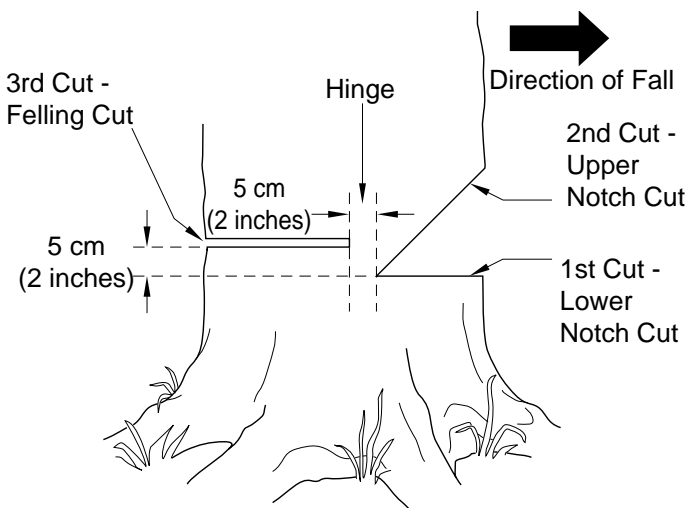

Figure 13 - Felling A Tree
A properly placed felling notch will determine direction tree will fall. Place felling notch on side of tree in direction you want tree to fall (see Figure 13). Follow directions below to create a felling notch.
1. Make lower notch cut as close to ground as possible. Hold saw so guide bar is horizontal. Cut 1/3 the diameter of tree trunk (see Figure 13). **Note:** Always make this horizontal lower notch cut first. If you make this cut second, tree can pinch chain or guide bar.
Example: If lower notch cut is 20 centimeters deep (eight inches), start upper notch cut 20 centimeters (eight inches) above it. Cut downward at 45° angle. The upper notch cut should meet end of lower notch cut (see Figure 13).
1. Make felling cut five centimeters (two inches) higher than lower notch cut and on opposite side of tree (see Figure 13). Keep felling cut parallel to lower notch cut.
Do not cut all the way through tree. Leave about five centimeters (two inches) of tree diameter uncut directly behind felling notch (see Figure 13). This uncut portion acts as a hinge. The hinge helps keep tree from twisting and falling in wrong direction.